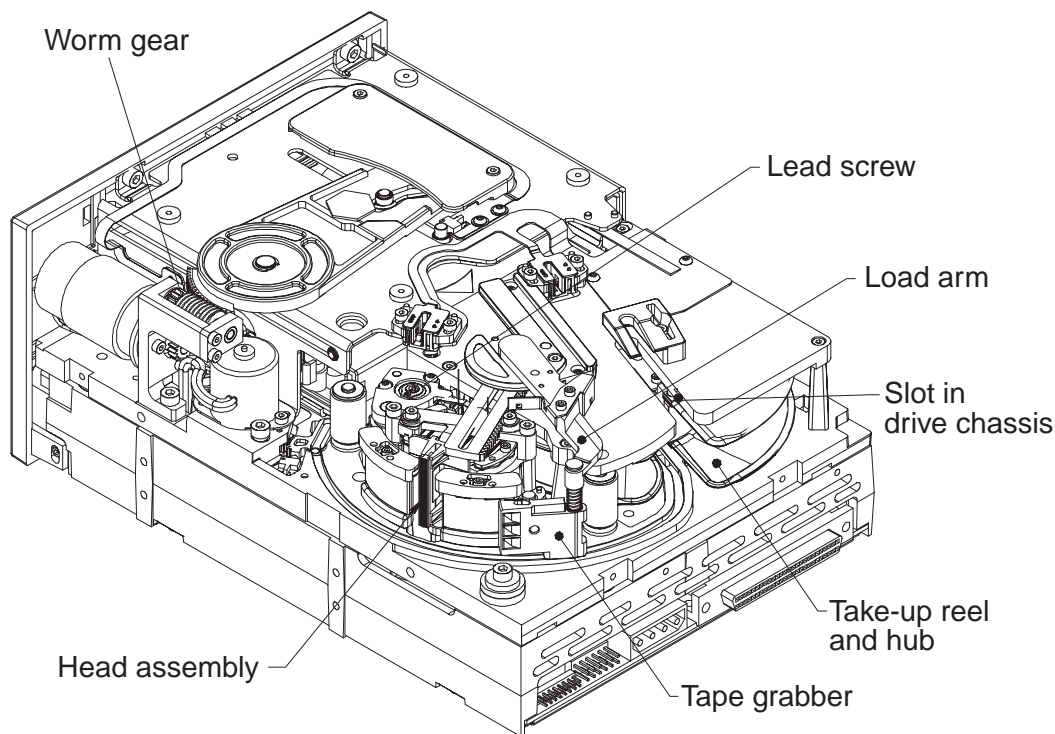

Figure 3. Drive Key Components
If the cartridge is loaded and seated, and the tape is entirely or partially threaded into the drive, follow these steps. To perform these steps you will need a small, flat-blade screwdriver and a 1.5-mm hex wrench. Figure 3 on page 4 **Error! Bookmark not defined.** shows key components of the drive mechanism that are referred to in the following procedure.
6. Rotate the hub to align the slot in the hub with the slot on the drive chassis (see Figure 3 on page 4 **Error! Bookmark not defined.**).